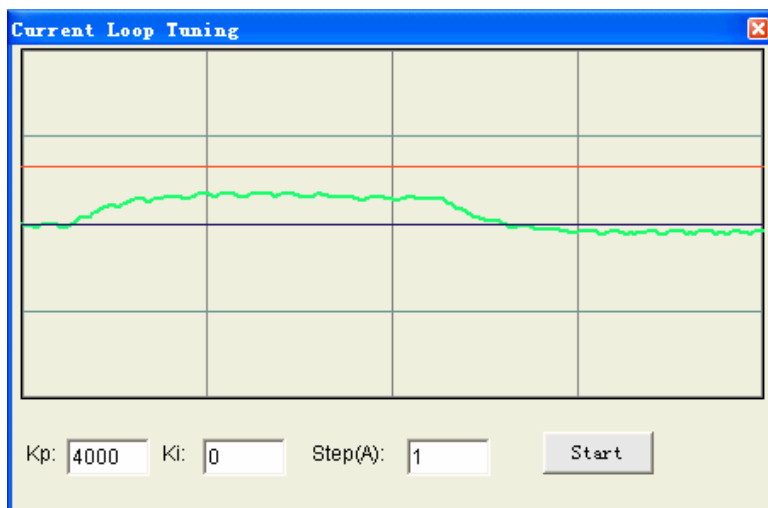

Figure 3-2: Current loop tuning with  $K_p=4000$ ,  $K_i=0$
**Step 2:** Click the Start button and the plot window will show two curves. The red one is target current and the green one is actual measured current. There is large gap between them in the scope. It indicates that a large  $K_p$  need to be introduced. See figure 3-2.